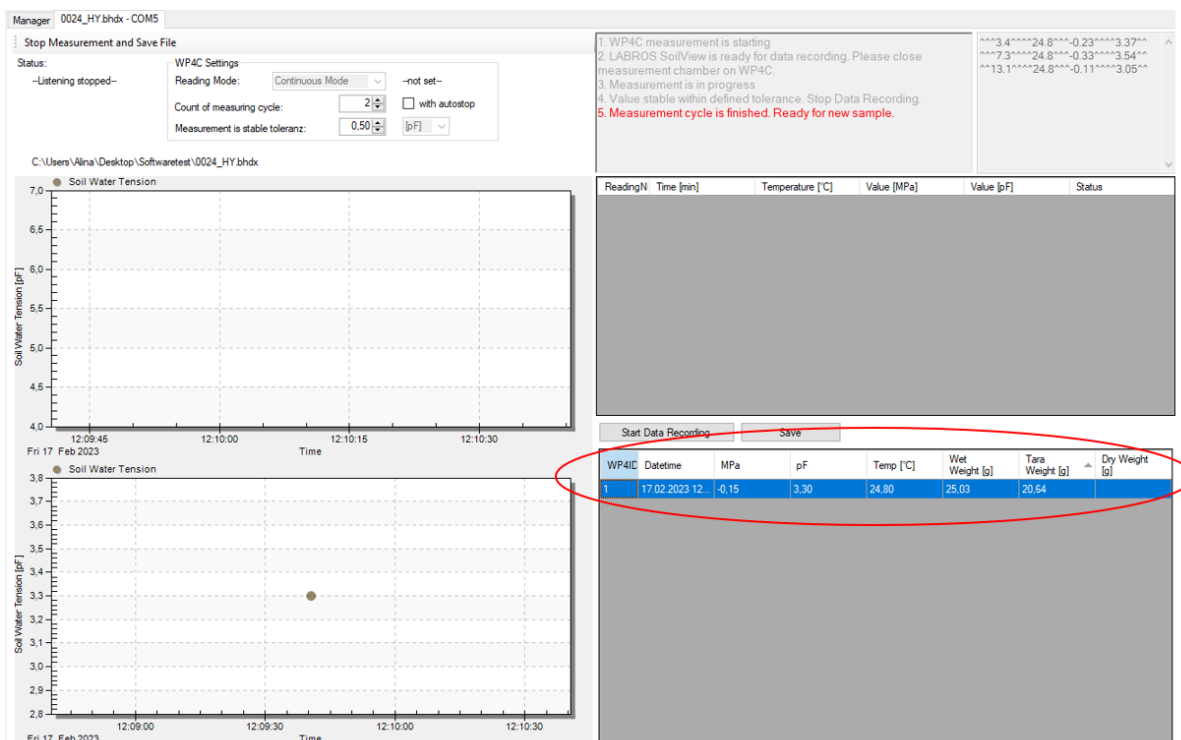

Figure 6 Result Table
8. When using **Fast** or **Precise** mode only one data point is recorded and the measurement stops automatically. When using **Continuous** mode the software records as many data points as defined in the profile **Count of WP4C Data Points**. The software will verify if the datapoints are within the defined tolerance; if so stop the measurement by pressing the button **Stop Data Recording**. The software stops automatically if **Autostop** is selected. The average is calculated and displayed in the lower table on the right (Figure 6). If the values are not within the defined tolerance the measurements continue.
9. Once measuring has stopped the soil sample must be removed from the measurement chamber and weighed immediately. The wet weight of the sample as well as the tare weight of the cup may be entered directly into the lower table on the right (Figure 6).